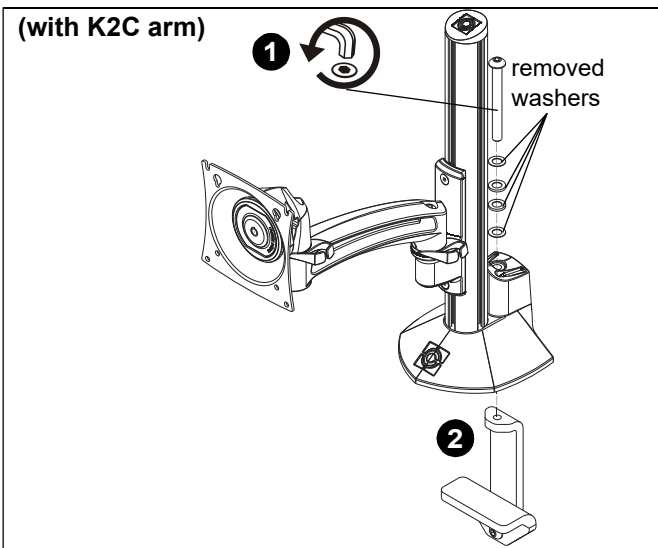

Figure 6
1. Remove desk clamp from mount by loosening button head cap screw until clamp is completely disengaged from the bolt. (See Figure 6)
2. Maneuver clamp so that it is totally removed from desk mount. (See Figure 6)